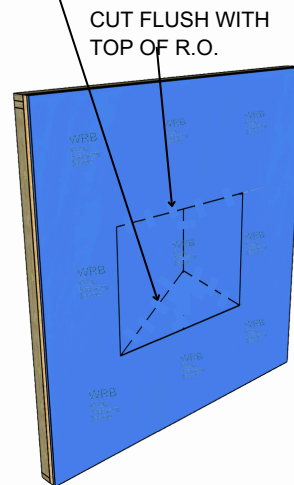

Figure 2: Fasten WRB
- Fold bottom and side flaps over and behind the interior sides of the rough framing (Figure 2)